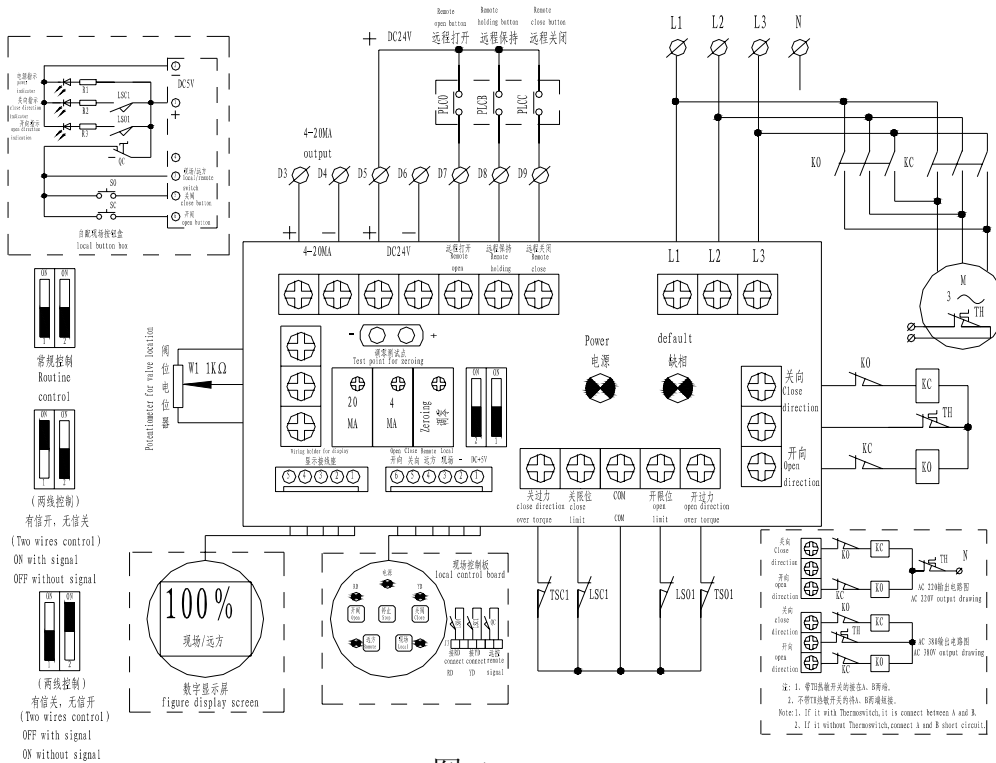

图 5 Figure 5
6.1.2 Q 整体型和隔爆整体型电气控制原理图见图 5 Refer to the Figure 5 for the schematic diagram of electric control of integral type and integral explosion-proof type.